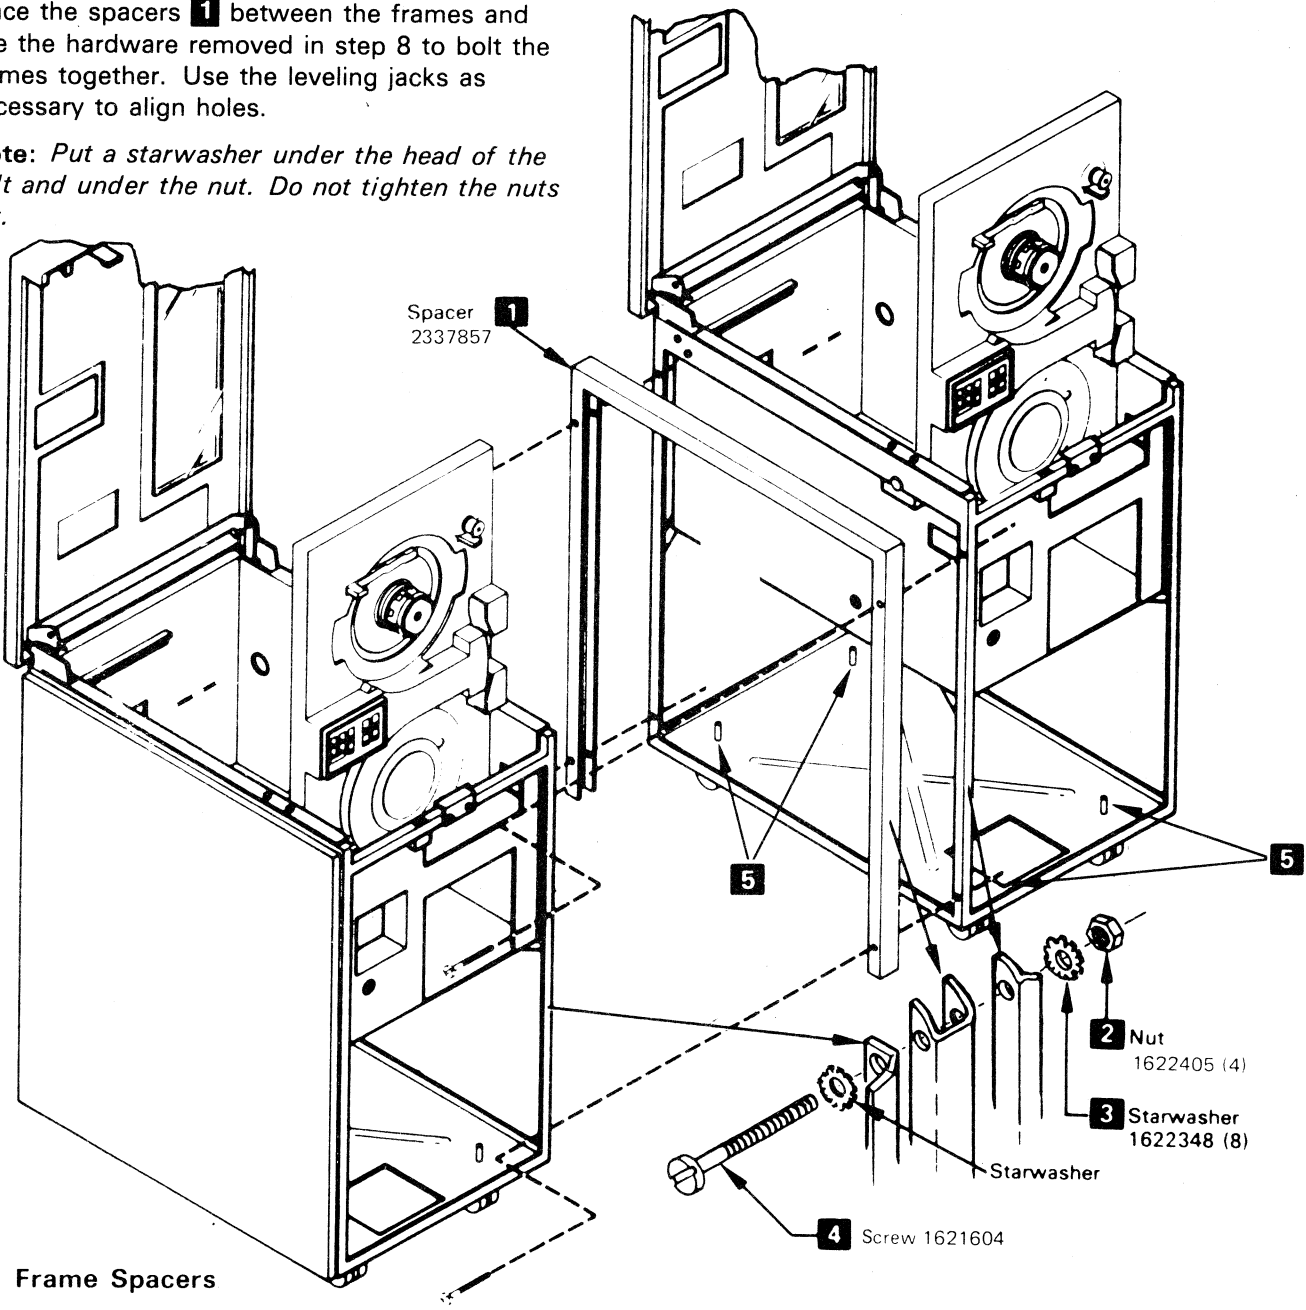

Figure 4. Frame Spacers
- 4.1. If you are installing a Model 1A or Model 1B only, lower the four level jacks **5**, Figure 4 until the machine weight is off the casters. Skip to Power Checks—General (INST 45).
- 8. Tape units are shipped with spacers bolted to the left side of Models 2 and 3. See Figure 4 to remove the spacers **1** by unscrewing four screws **4**, removing four nuts **2**, and removing eight starwashers **3**.